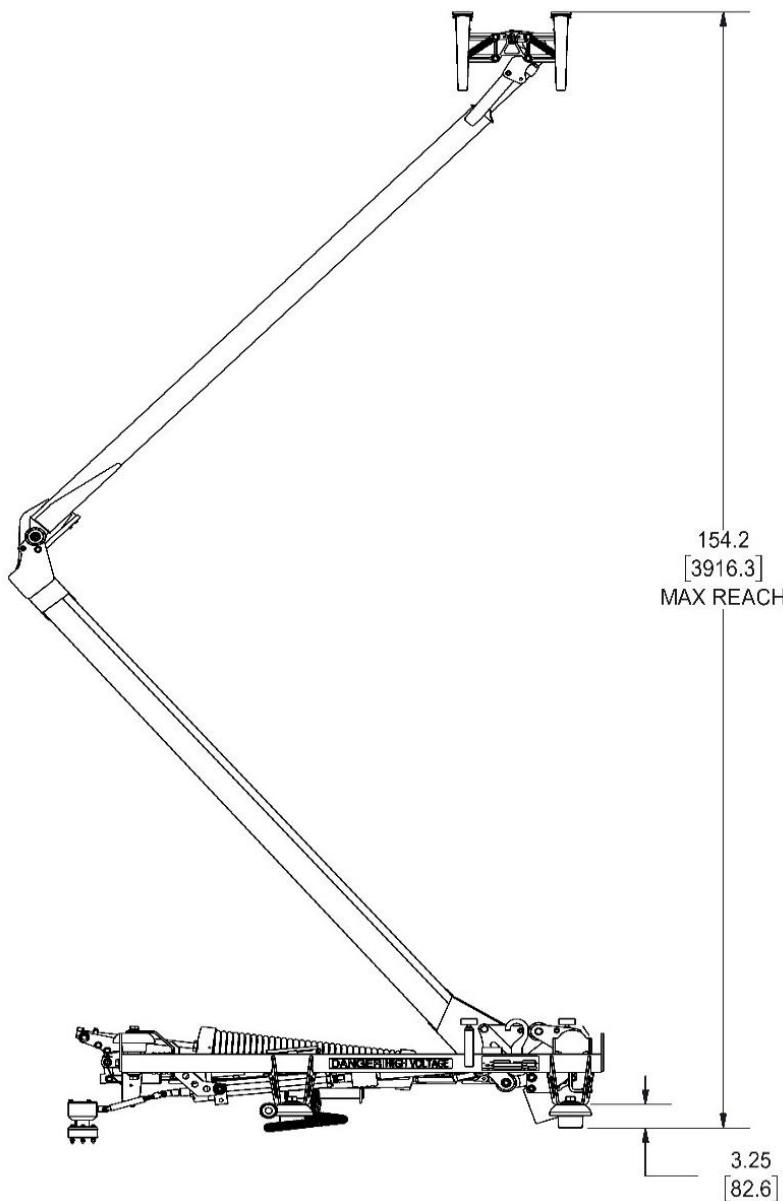

Figure 5-3: Maximum Height Adjustment
3. Measure from the top of carbons to the bottom of the base frame insulator. Recommend using a flat bar to span the carbons and fix the tape measure in between the two carbons. Determine if the pantograph maximum height needs to be increased or decreased per Figure 5-3.